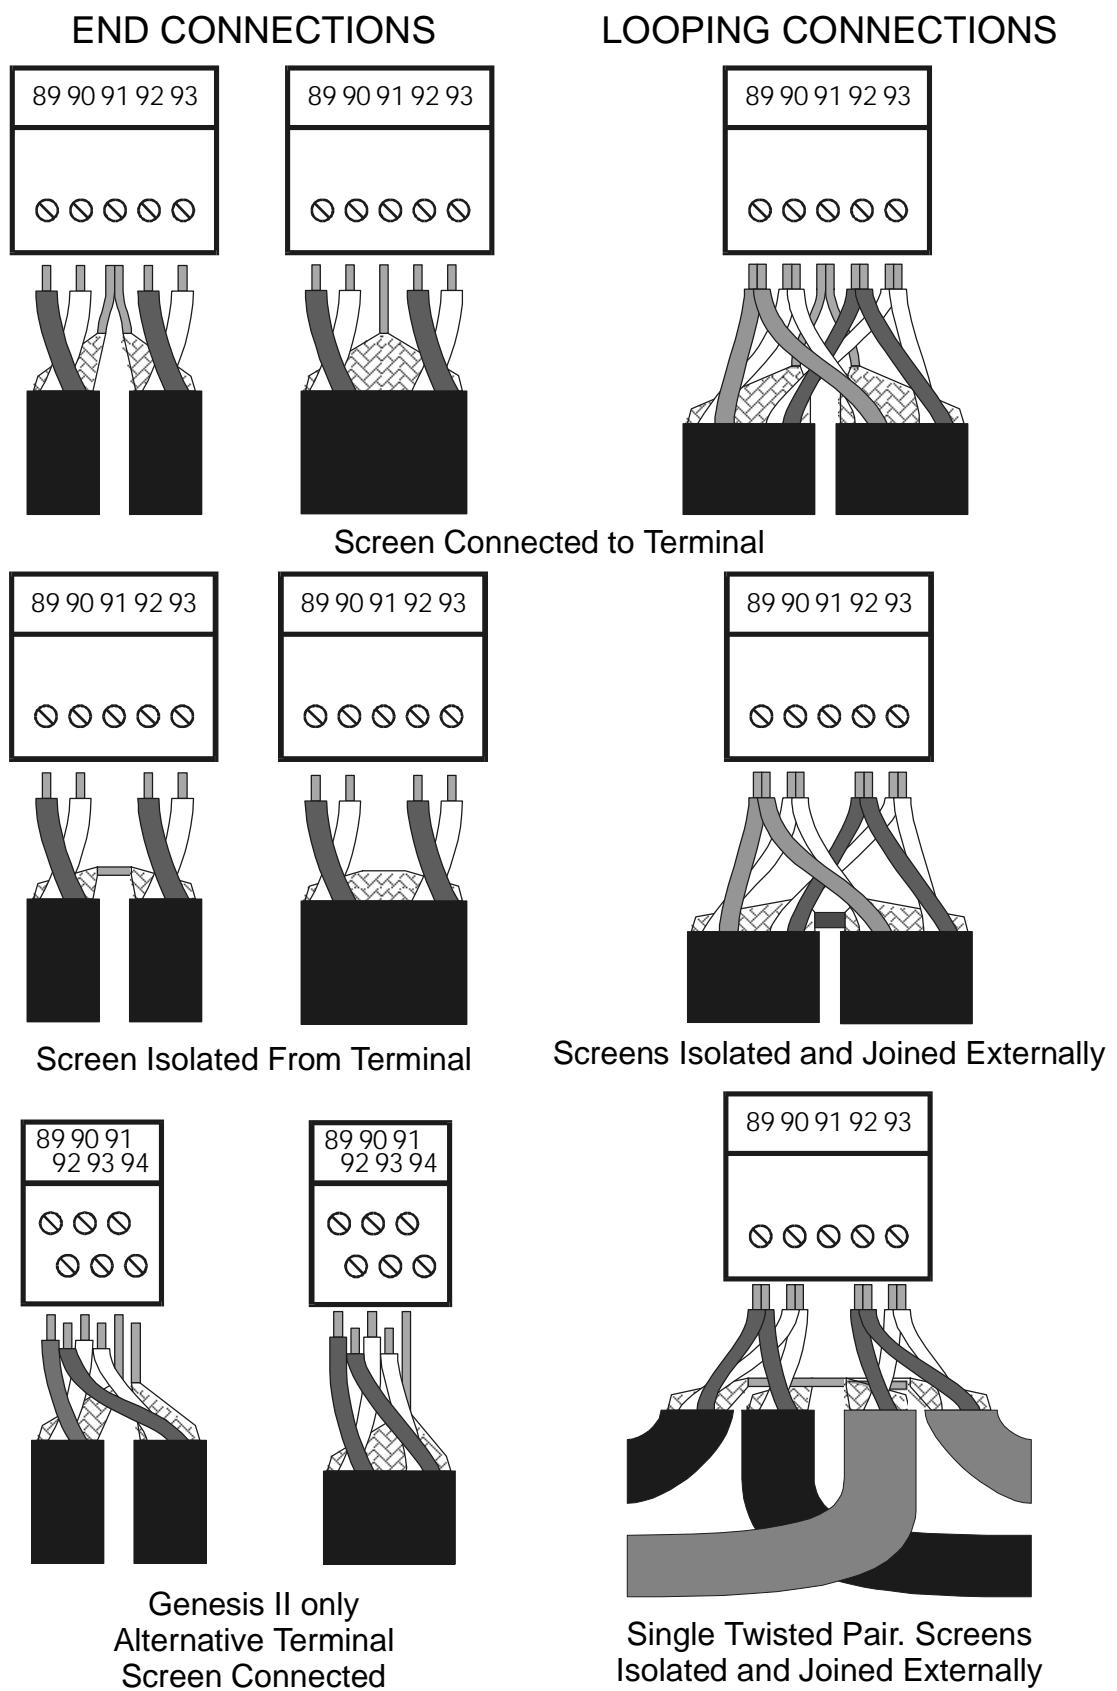

Figure A-6. Genesis Comms Wiring Connections.
**A-4.2.1. Genesis Comms Wiring Connections.** Figure A-6 illustrates the arrangements for connecting the data conductors and screen for the Comms cable to Genesis products.